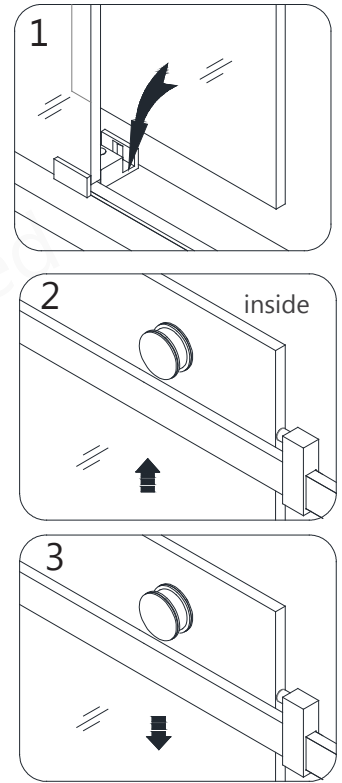

Fig 25
25. Align the bottom of the **Door Glass (#03)** with the **Guide Block (#12)** and hang the door from the **Guide Rail (#04)**. (**Fig 25**)